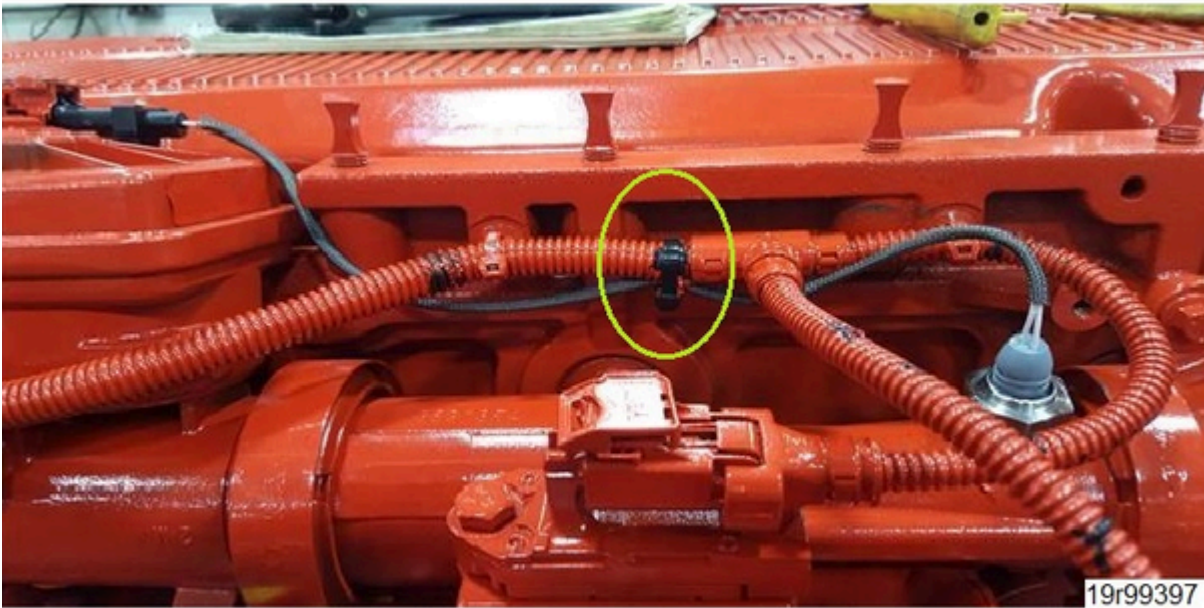

Figure 4, Correct Routing of EGR Temperature Sensor Wiring.
- Route new EGR temperature sensor wiring below wiring harness convolute, securing EGR temperature sensor wiring using **only** one zip-tie as shown in Figure 4 below.
- Secure EGR temperature sensor wiring so wire leads going into EGR temperatures sensor are near vertical. See Figure 4 below.